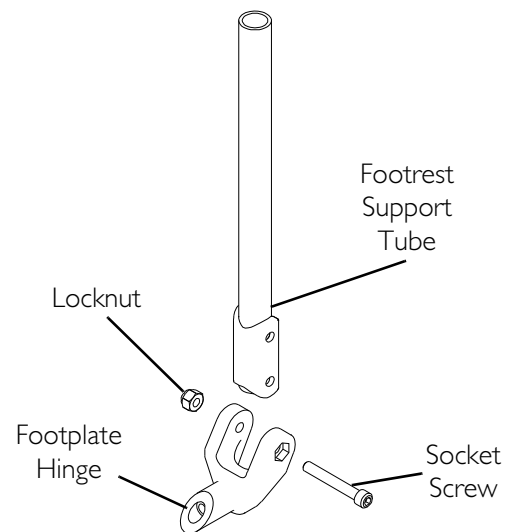

FIGURE 4.6 Installing Adjustable Angle Flip-up Footplate Hinge
NOTE: For this procedure, refer to FIGURE 4.6.
2. Position the hardware on the footrest support as shown in FIGURE 4.6.